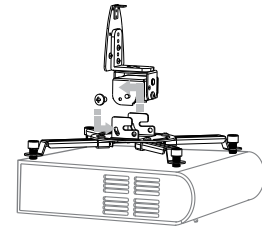

figure 2
2. Attach the Lower Bracket to the Wall Mounting Bracket - ensuring all the required cables are 'feed' through the desired slots (figure 2).